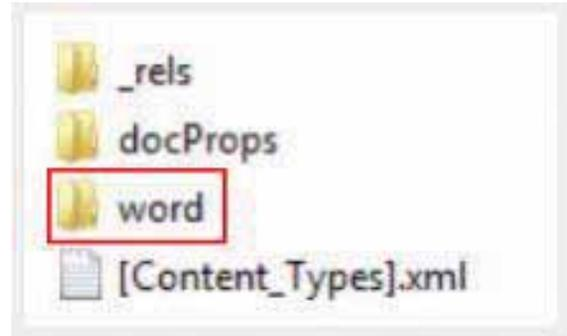

Figure 7: Locate the “image1.wmf” file
- Open the newly created ZIP file and locate the file “image1.wmf.” This will be located in the \word\media\ file (see Figure 7).